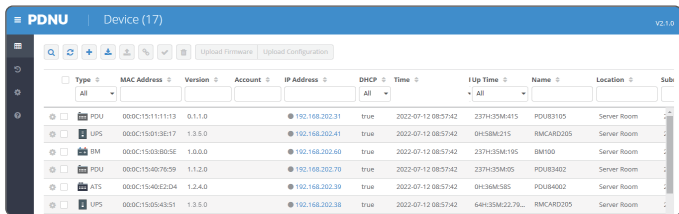

Figure 4. The main window of the “Power Device Network Utility 2” program
3. The main window of the Power Device Network Utility 2 program is shown in Figure 4. The configuration tool will display all CyberPower Remote Management devices present on the local network subnet. The “Scan” button is used to search the local network subnet again.